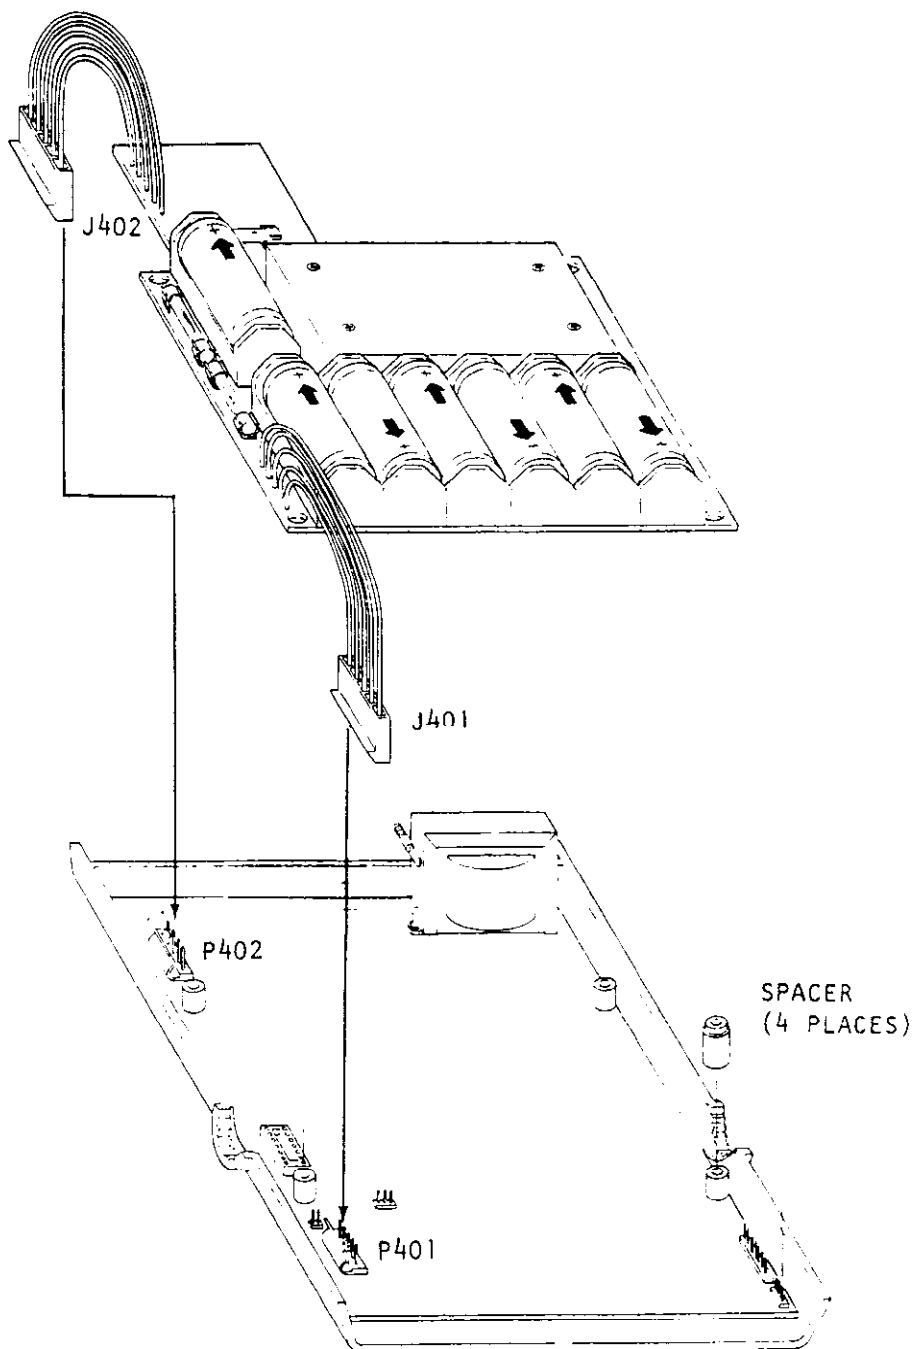

FIGURE 2-3. Installation of Battery Pack.
1. How to Install the Model 1728 Rechargeable Battery Pack. The batteries furnished with the Model 1728 are already installed in the battery pack. The battery pack includes 7 rechargeable "C" cells (1.2V, 2 AMP Hr) and two 19.2 volt packs (sixteen 1.2V-cells per pack). See Figure 2-3.
b) Check for proper installation of batteries in the Battery Pack. If replacement battery cells are to be installed, be certain to observe the proper polarity of the individual cells as shown in Figure 2-3.
c) To install the Battery Pack, turn the instrument over so that the bottom cover faces up. Loosen four slotted screws on the bottom cover. The screws are captive, that is they cannot be removed completely. Turn over the instrument with the top cover facing up, taking care to hold the top and bottom covers together. Carefully, remove the top cover to gain access to the printed circuit board. There is a connection between the top cover and the main circuit board which must be temporarily removed in order to free the top cover. Check to see that the four insulating spacers are in position on the circuit board as shown in Figure 2-3. Plug the two 5-wire connectors (J401, J402) into the mating receptacles (P401, P402) taking care to orient the connectors as shown. Place the Model 1728 in position on the spacers with the pack oriented as shown in Figure 2-3. Replace the connector from the top cover to the circuit board. Replace the top cover. Turn over the instrument with the bottom cover facing up and tighten down the four slotted-head screws.